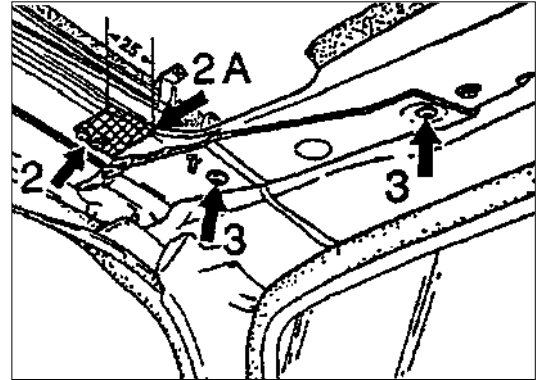

Figure 8
- Cut off the hatch-marked part at a length of 25mm (Figure 8, arrow 2A).
- Remove metal burrs from the cut off area of the bracket (Figure 8, arrow 2A) and cover the exposed metal with anti-corrosion paint.